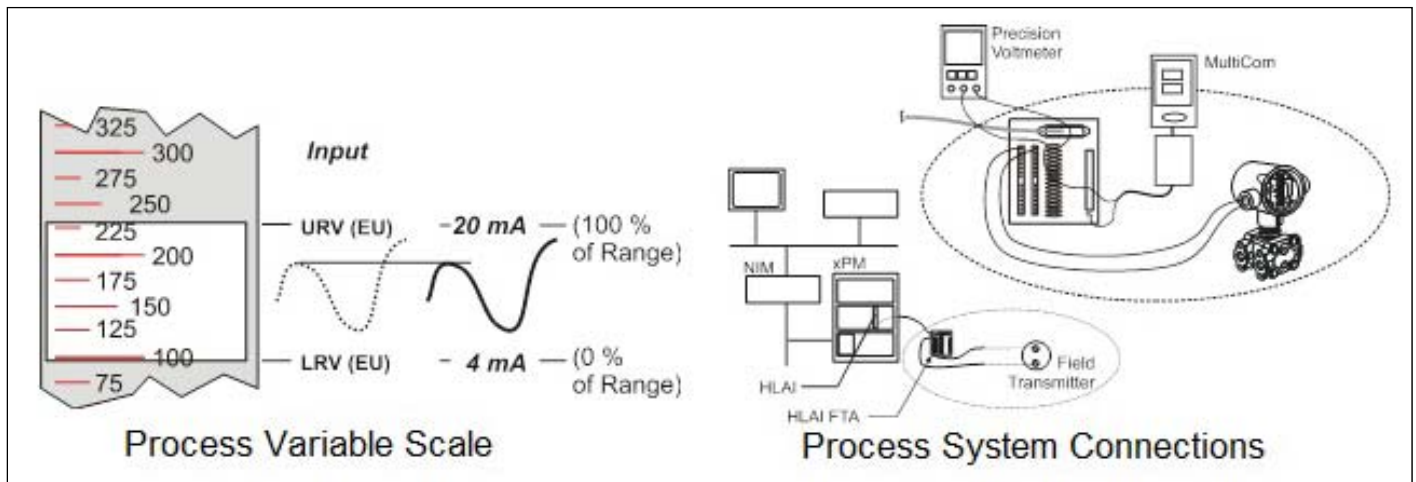

Figure 13 – DE Analog Mode Scaling and Test Connections
For a DE Transmitter operating in analog mode, calibrate the analog output current to the Process Variable (PV) input range such that 4 mA corresponds to the LRV of 0% and 20 mA corresponds to the URV of 100%. Figure 13 shows the PV scale and representative process system connections.